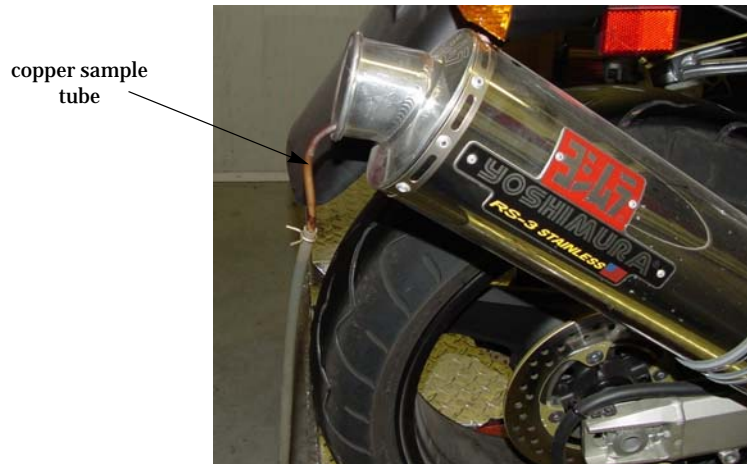

Figure 2-1: Sample Tube Placement
- 3 Verify the copper sample tube is not kinked or clogged and is inserted into the exhaust as far as possible. Refer to Figure 2-1.